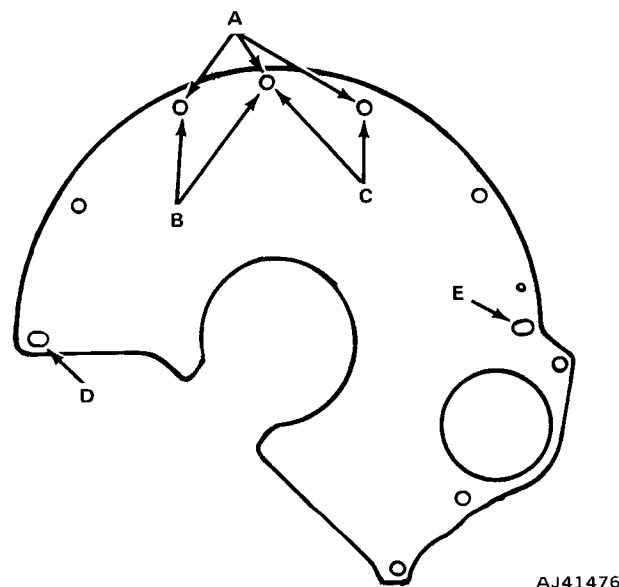

Fig. 5-5 Shim Locations—232 CID Engine Shown
- (11) Use following procedure to correct face runout of clutch housing.
- (a) Install shims between clutch housing and engine to clutch housing spacer (fig. 5-5).